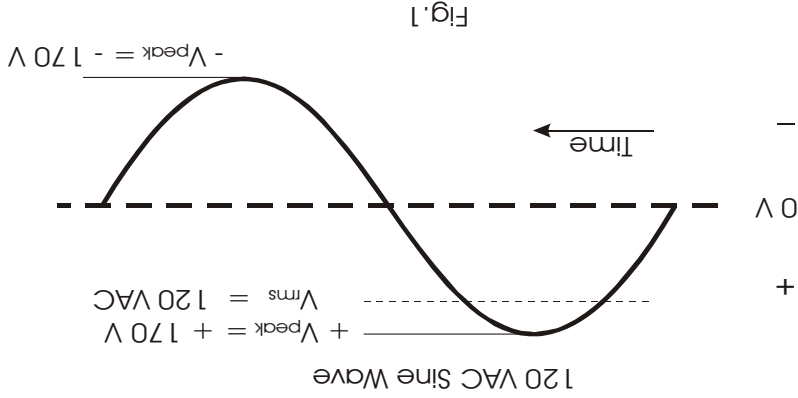
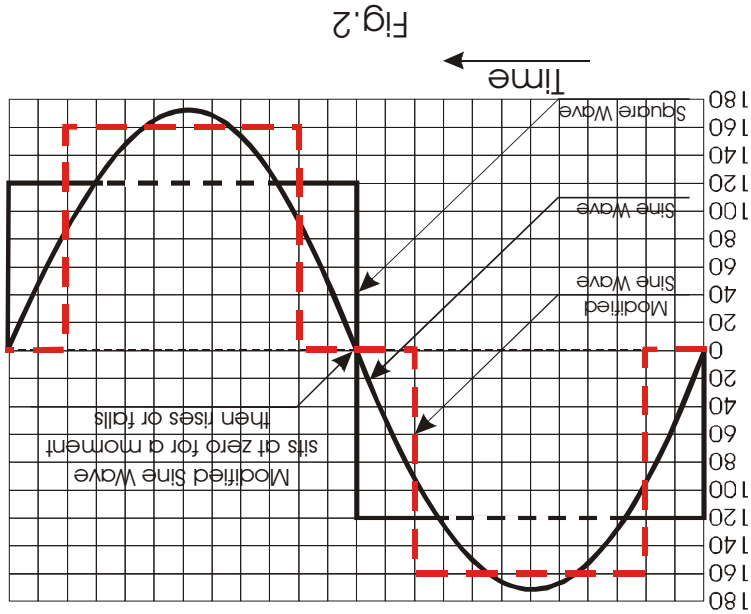

Fig. 1
Fig.2
**Active Power (P), Watts.** It is denoted as "P" and the unit is "Watt". It is the power which is dissipated in the load due to the resistance. The Energy Meter (Kilo Watt Hour Meter) measures the Active Power consumed in Watts and the utility companies bill the users based on this power consumption. This power  $P = \text{RMS Voltage} \times \text{RMS current} \times \text{Power Factor} (\cos \phi)$ .
**Reactive Power (Q), VAR.** Denoted as "Q" and the unit is VAR. Mathematically, this power  $Q = \text{RMS Voltage} \times \text{RMS current} \times \sin \phi$  (Sine Function Value of the Phase  $\phi$  between the voltage and the current vectors). The magnitude of this power will be 0 if the Phase  $\phi$  between the voltage and the current vectors is 0 degrees or the Power Factor is unity (1). This power will increase as the Power Factor decreases below unity (1). This power is not consumed by the load but travels to the load in the positive half cycle of the sinusoidal voltage and is returned back to the load in the negative half cycle of the sinusoidal voltage. This back and forth flow of energy is due to the capacitive and inductive reactances in the load. Hence, when averaged over a span of one cycle, there is no consumption of power. However, on an instantaneous basis, this power has to be provided by the AC source and the AC source, the transmission lines and the gear have to be sized accordingly. The Energy Meter (Kilo Watt Hour Meter) does not measure this power but the Utility Companies have to provide this additional power. Hence, the Utility Companies require that the Power Factor of the load should be very close to unity (1) so that they do not have to transmit this additional reactive power that is not being paid for. To bring the low Power Factor of the load to near unity (1), the Utility Companies require use of Power Factor correction devices at the load location.
**Sine Wave.** In a voltage that has a sine (sinusoidal) wave-form (see Fig. 1 below), the instantaneous value and polarity of the voltage varies cyclically with respect to time. For example, in one cycle in a 120 VAC, 60 Hz system, it slowly rises in the positive direction from 0 V to a peak positive value "Vpeak" = + 170 V, slowly drops to 0 V, changes the polarity to negative direction and slowly increases in the negative direction to a peak negative value "Vpeak" = -170 V and then slowly drops back to 0 V. There are 60 such cycles in 1 sec. Cycles per second is called the "Frequency" and is also termed "Hertz (Hz)".
**Cycle.** For a sine wave (see Fig. 1 above), it is the complete event starting with a rise from zero to a maximum amplitude, its return to zero, the rise to a maximum in the opposite direction, and then its return to zero.
The output voltage of a sine-wave inverter has a sine wave-form like the sine wave-form of the mains / utility voltage. (Please see sine-wave represented in the Fig.2 above and also in Fig.1 on Page 9. Fig.2 above also shows modified sine-wave and square sine-wave for comparison).